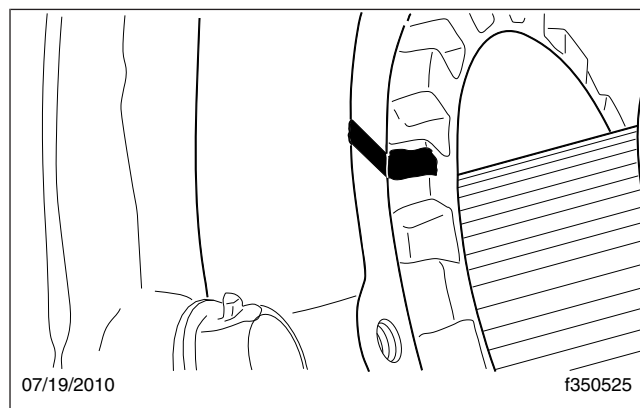

Fig. 14, Threaded Ring and Bearing Cage, Marked
- 33.3 When there is between 0.002 and 0.003 inch (0.05 and 0.08 mm) of end play, align a mark on the threaded ring with one on the bearing cage. See Fig. 14.